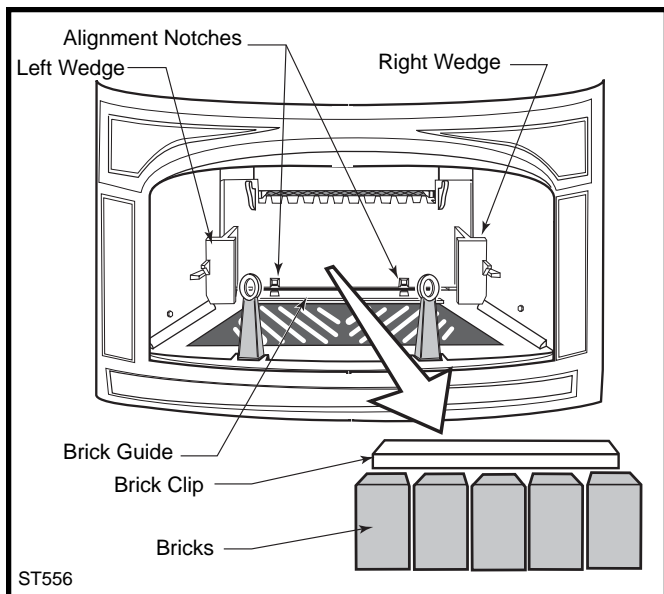

Fig. 37 Remove the bricks and the brick retainer.
1. Remove the firebricks. Lift off the steel clip and remove the bricks individually. (Fig. 37)
7. Replace the fireback, the five bricks and their clip, the left and right wedges, and the baffle. When you install the lower fireback, be sure to align the two slight recesses in its bottom forward edge *behind* the mating tabs on the firebox floor. (Fig. 37) When you install the wedges, be sure to place their rear vertical edges against the *outermost* left and right edges of the lower fireback, to ensure a good seal between the lower fireback and the stove's outer back. Tap them downward to seat them snugly, but do not overly tight.